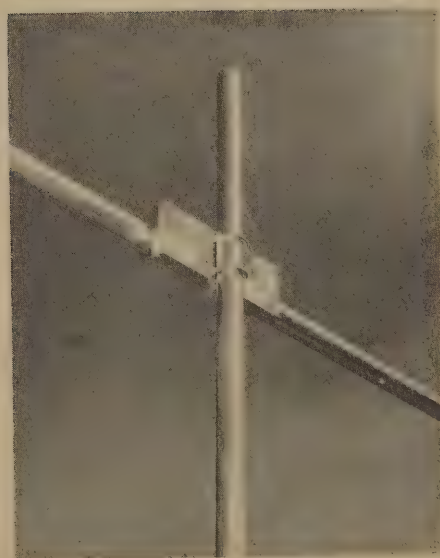

FIG. 3
5. A BEAD OF NEOPRENE SHOULD ALSO BE APPLIED AROUND THE SEAL ON BACK AND FRONT COVER WHERE IT CONTACTS THE 7/8" TUBING (SEE FIGURE 3).